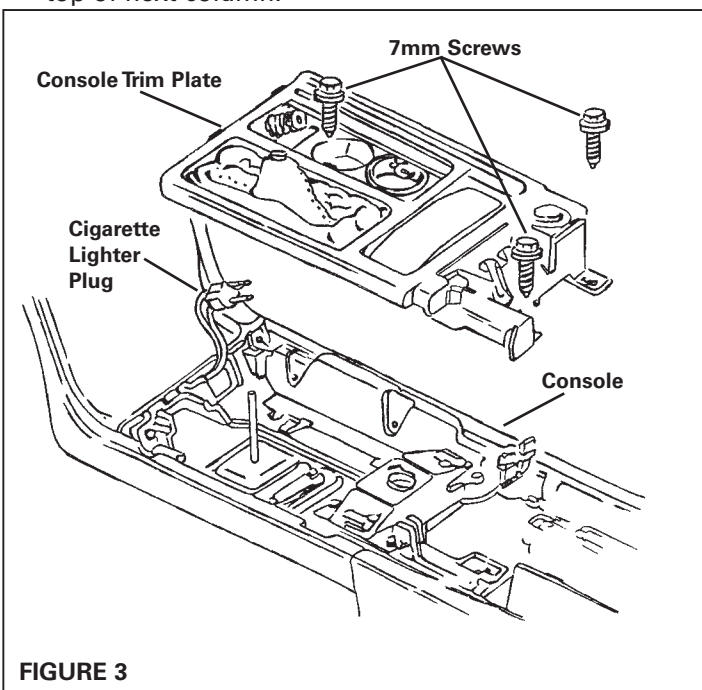

FIGURE 3
90-96 models: Remove the trim plate from the console by removing the three (3) 7mm screws retaining the trim plate to the console. (Refer to Fig.3) See note at top of next column.